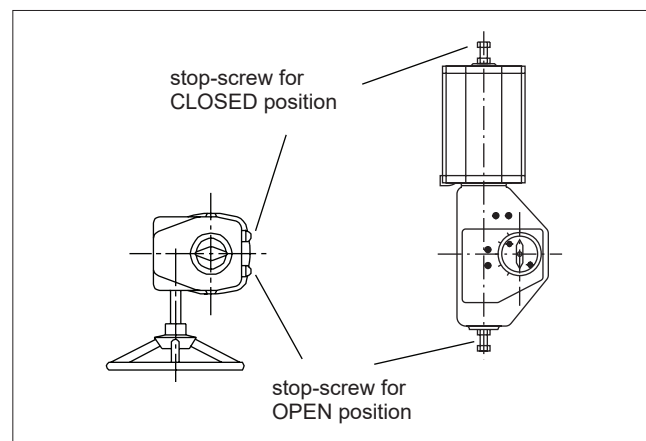

Fig. 19 Open and closed positions of the valve
- Adjust the ball open and closed positions by means of the stop screws located at the side of the housing (see Figure 19). The closed position screw is nearest to the handwheel on the side of the housing, and the open position screw is on the opposite end. The turning directions are marked on the wheel.
- Adjust the open and closed positions of the ball with the adjustment screws in the actuator. See Figure 19. The exact open position is indicated by the flow bore. The yellow arrow should indicate the direction of the flow bore. **Do not put your fingers into the flow bore!**